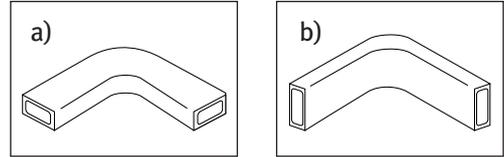

Figure 5. The risk of distortion is lower in (a) hard-way bending than in (b) easy-way bending [2].
**Hard-way versus easy-way bending.** When rectangular tube is bent, the material often has less distortion if it is bent the hard way (see Figure 5). The heavier the wall thickness, the tighter it can be formed without excessive distortion [13].